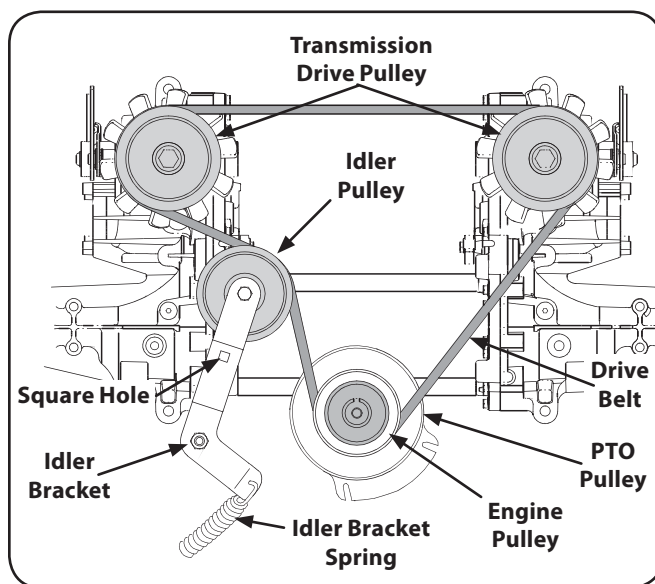

Figure 7-10
- From beneath the rear of the tractor, insert a $\frac{3}{8}$ " drive ratchet into the square hole of the drive idler bracket. See Figure 7-10.